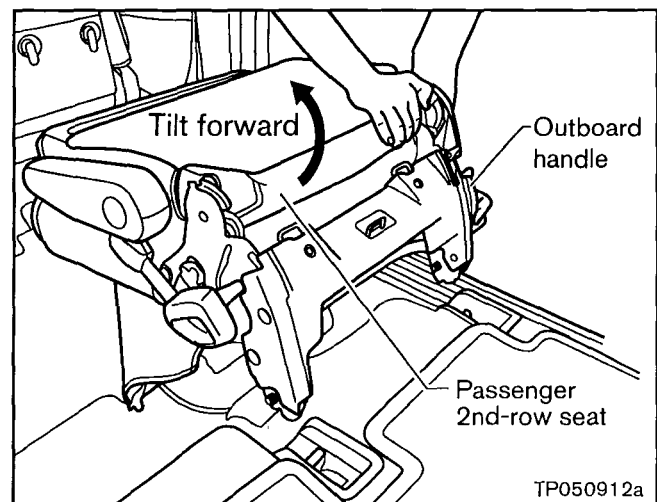

Figure 4
2. Use the outboard handle to tilt the seat forward into the “convenient entry” position (see Figure 4).